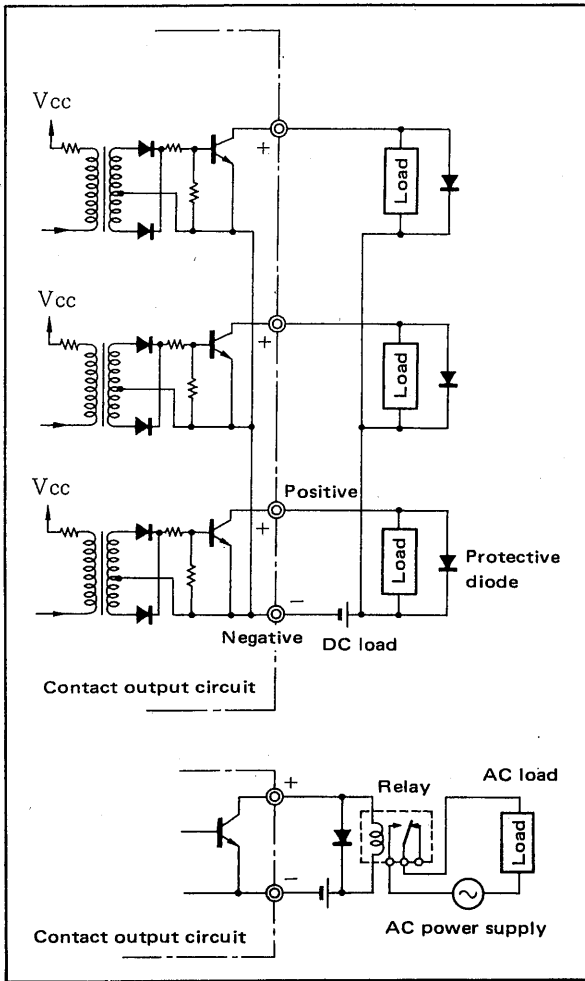

Figure 3-1-3. Connection of Contact Outputs.
- (1) Be sure to terminate all cable connections in solderless crimp-on lugs.
- (2) Each status and voltage input must be as per STLD\*E specifications. Note the limits on conductor resistance, voltage drop in conductors, and voltage (high/low) levels. (Refer to Section 2-1. Standard Specifications)
- (3) The fail and digital outputs are transistor contact signals (isolated from power supply and other internal circuitry). When connecting external devices, pay attention to the following: (See Figure 3-1-3.)
- When connecting a relay or other such inductive device, connect a surge absorber (protective diode - Figure 3-1-3, CR circuit, etc.) in parallel with the load.
- (4) Use shielded twisted-pair SCCD cable for communication lines (terminals 17, 18).